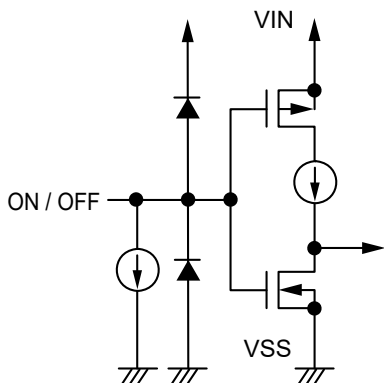

Figure 17 S-1315 Series A / C type
Note that the current consumption increases when a voltage of 0.25 V to 1.0 V is applied to the ON / OFF pin. The ON / OFF pin is configured as shown in **Figure 17** and **Figure 18**.
*1. Note that the IC's current consumption increases as much as current flows into the constant current when the ON / OFF pin is connected to the VIN pin and the S-1315 Series A / C type is operating (refer to **Figure 17**).